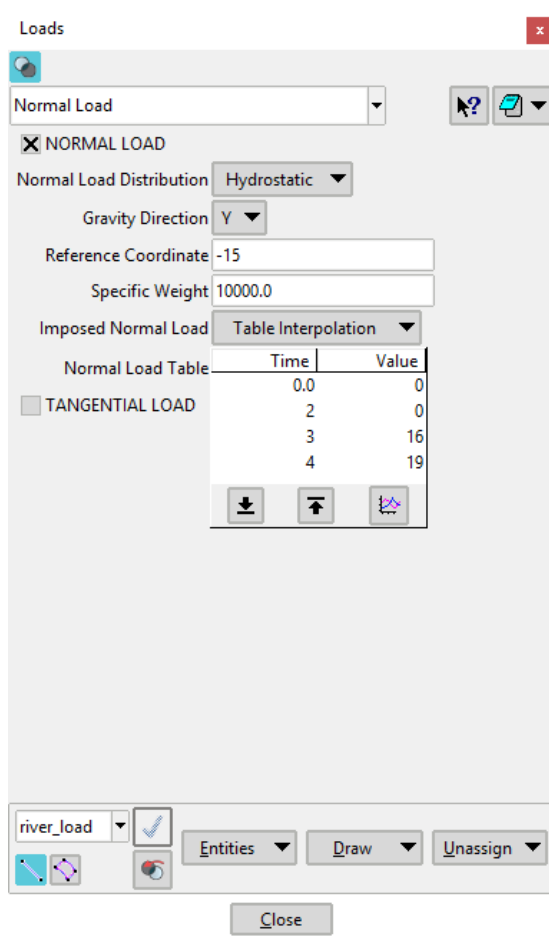

Figure 8.8: River load tutorial 1
- 16 The water pressure due to the river water level is now set, however since the water level lies above the surface, it is required to explicitly define the normal load due to the water. Click on *GeoMechanicsApplication* -> *Loads*. From the top drop-down menu in the Loads window, select *Normal Load*. Fill in the values as shown in Figure 8.8. Assign the condition to the lines 17 and 18.